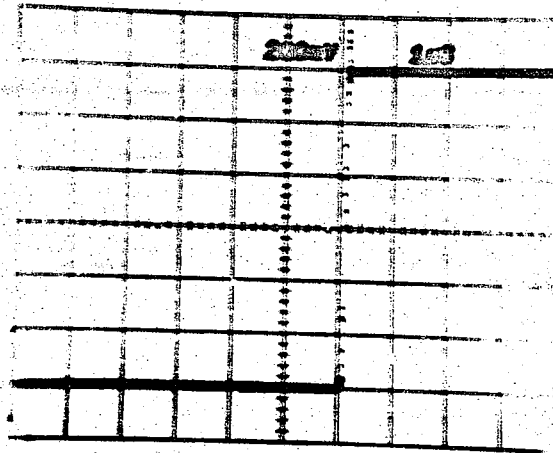

Fig. 7-15. 1.2 Volt Step at 2 VOLTS/DIV.
e. Trigger a display then center the step using the DELAY TIME MULT control and the DC OFFSET control. The display should appear as shown in Fig. 7-15.